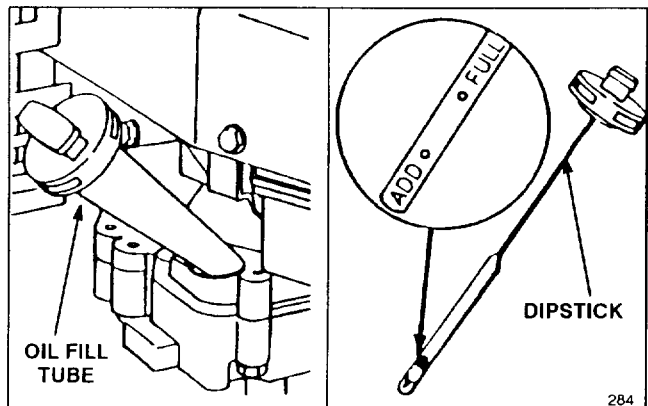

Figure 5
Fill crankcase with SAE 30 oil until oil level reaches FULL mark on dipstick as shown in Figure 5. The maximum crankcase capacity is 25 ounces (0.75 liters) of oil. Use of multi-viscosity oils (10W30, etc.) above 40° F (4° C) will result in high oil consumption and possible engine damage. Use any high quality detergent oil having the American Petroleum Institute (API) "service classification"—SE, SF or SG.
Before each use, ensure oil level is between ADD and FULL marks on dipstick (Fig. 5). Add oil if level is low.
3. Wipe dipstick and insert it into filler neck. Rotate cap clockwise 1/4 turn. Then remove dipstick and check level of oil (Fig. 5). If level is low, add only enough oil to raise level to FULL mark on dipstick. **DO NOT FILL ABOVE FULL MARK BECAUSE EN-**
1. **CHECK OIL LEVEL**—Maintain oil level between **ADD** and **FULL** marks as shown on dipstick (Fig. 5).